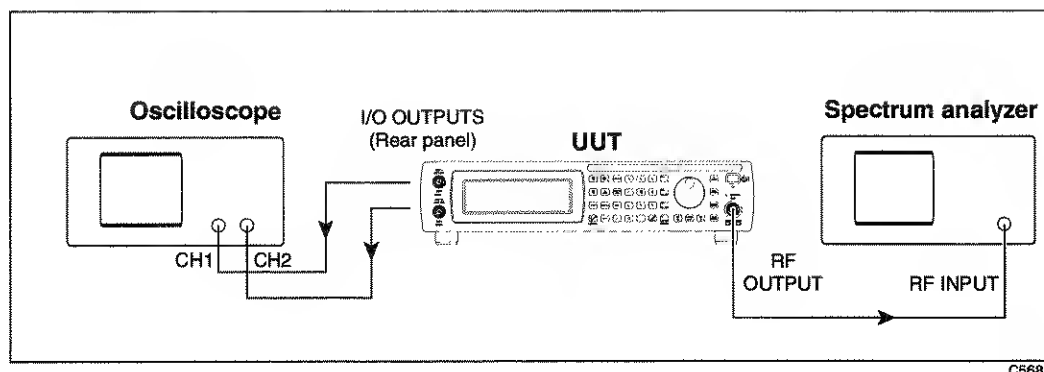

Fig. 6-5 Real time baseband test setup
- 1 Connect the test equipment as shown in Fig. 6-5.
1 Connect the test equipment as shown in Fig. 6-5.